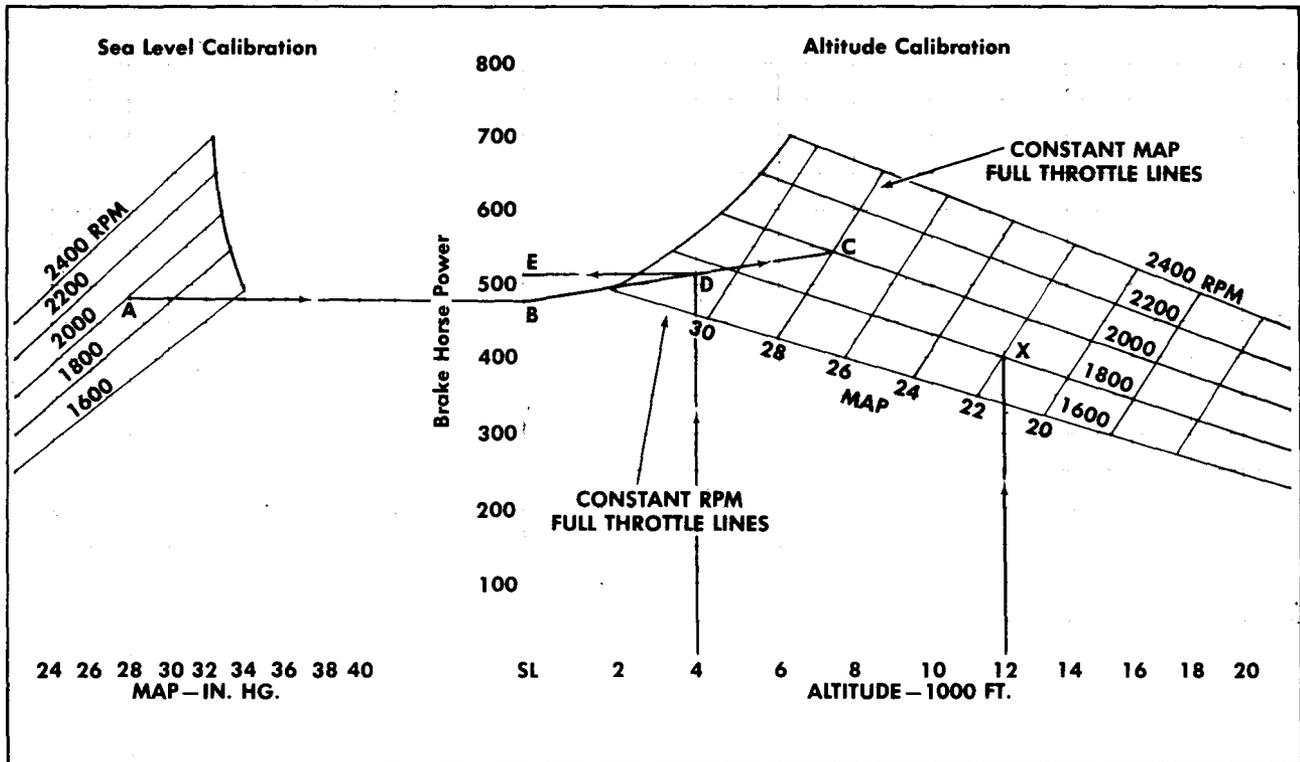

Fig. 11-7 - Power Chart
Most power charts are divided into two parts, as illustrated in Figure 11-7. The left portion contains sea level data and the right portion contains altitude data. With few exceptions, the two portions cannot be used independently of each other.
The RPM lines on the sea level chart in Figure 11-7 are referred to as "*part* throttle constant RPM lines". This is because many engines designed to operate at altitude have cylinder pressure restrictions that prohibit full throttle application at sea level. The RPM lines on the altitude chart are called "*full* throttle constant RPM lines" because less air density at altitude allows full throttle application. The MAP lines in the altitude chart are constant manifold pressure lines and are based on full throttle operation.
Since manifold pressure (MAP) lines and RPM lines in the altitude chart are based on full throttle operation, the critical altitude for any power setting may be easily determined. For example, notice in Figure 11-7 that a vertical line has been drawn from the intersection (point X) of the lines representing 1800 RPM and 22 inches manifold pressure. The altitude line (12,000 feet) on which these two lines intersect is the critical or full throttle altitude for this particular power setting.
Problem 1. (Figure 11-7)
1. In Figure 11-7, locate the intersection of 28 in. manifold pressure (MAP) and 2000 RPM on the *sea level calibration chart*. This point has been labeled A.
Most power charts, as in the example of Figure 11-7, have two parts: (1) a sea level calibration, and (2) an _____ calibration.
(a) To find brake horse power, use the dashed line in Figure 11-7 as an example. First find the MAP/RPM point on the sea level calibration, which is point "_____ " in the sample problem.